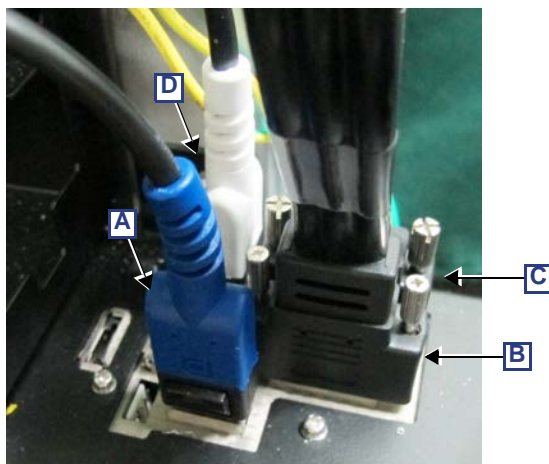

Figure 8-149 Internal Distribution Panel Cables
6.) Disconnect the cables from the Internal Distribution Panel (see Figure 8-149) as follows: